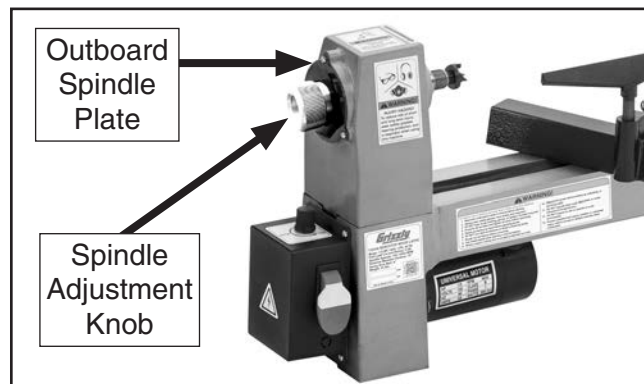

Figure 42. Location of outboard spindle plate and spindle adjustment knob.
3. Remove outboard spindle plate by removing (3) M4-.7 x 8 Phillips head screws, then remove spindle adjustment knob, as shown in **Figure 42**.
4. Remove outboard spindle plate by removing (3) M4-.7 x 8 Phillips head screws, then remove spindle adjustment knob, as shown in **Figure 42** on **Page 34**).